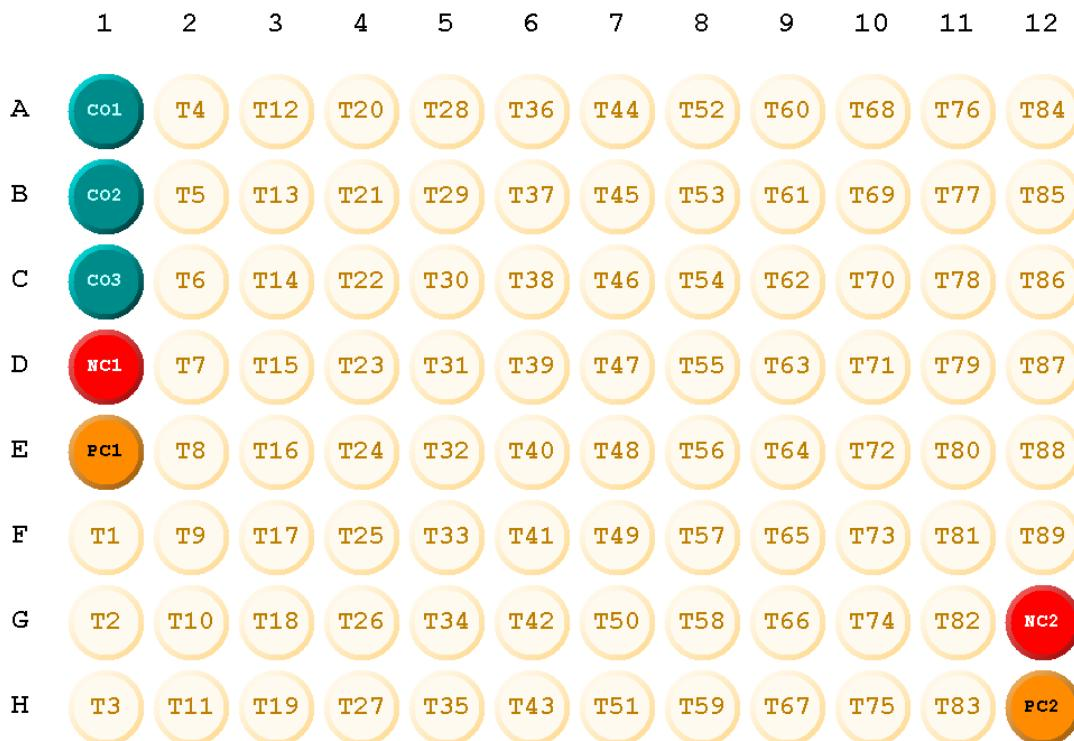

Figure 4-6: Microplate Pipetting Template with Controls
2. Enable **Auto Template Reduction** by checking the check box. **Auto Template Reduction** allows the user to define control or calibrator wells at the end of the assay template and have those controls or calibrators pipetted following the last specimen well, instead of being pipetted into the wells exactly as depicted in the template. For an example, please refer to the assay template pictured in Figure 4-6.